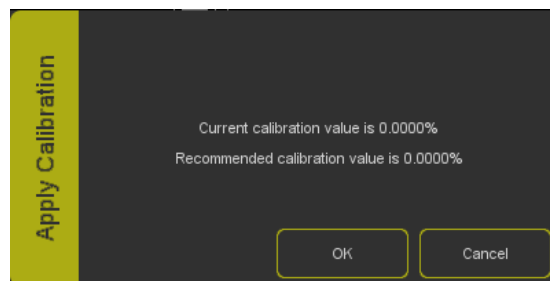

Figure 13.4: Apply calibration value
5. Apply the recommended calibration value in the dialog (figure 13.4)